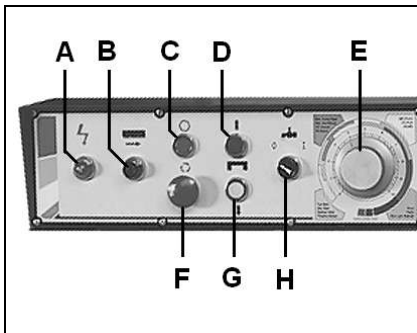

Fig 6
You can start the machine with the green ON-button (B, Fig 6). The red OFF-button (C) on the control box stops the machine.
You can rise and lower the sawarm with the control buttons (D, G, Fig 6).